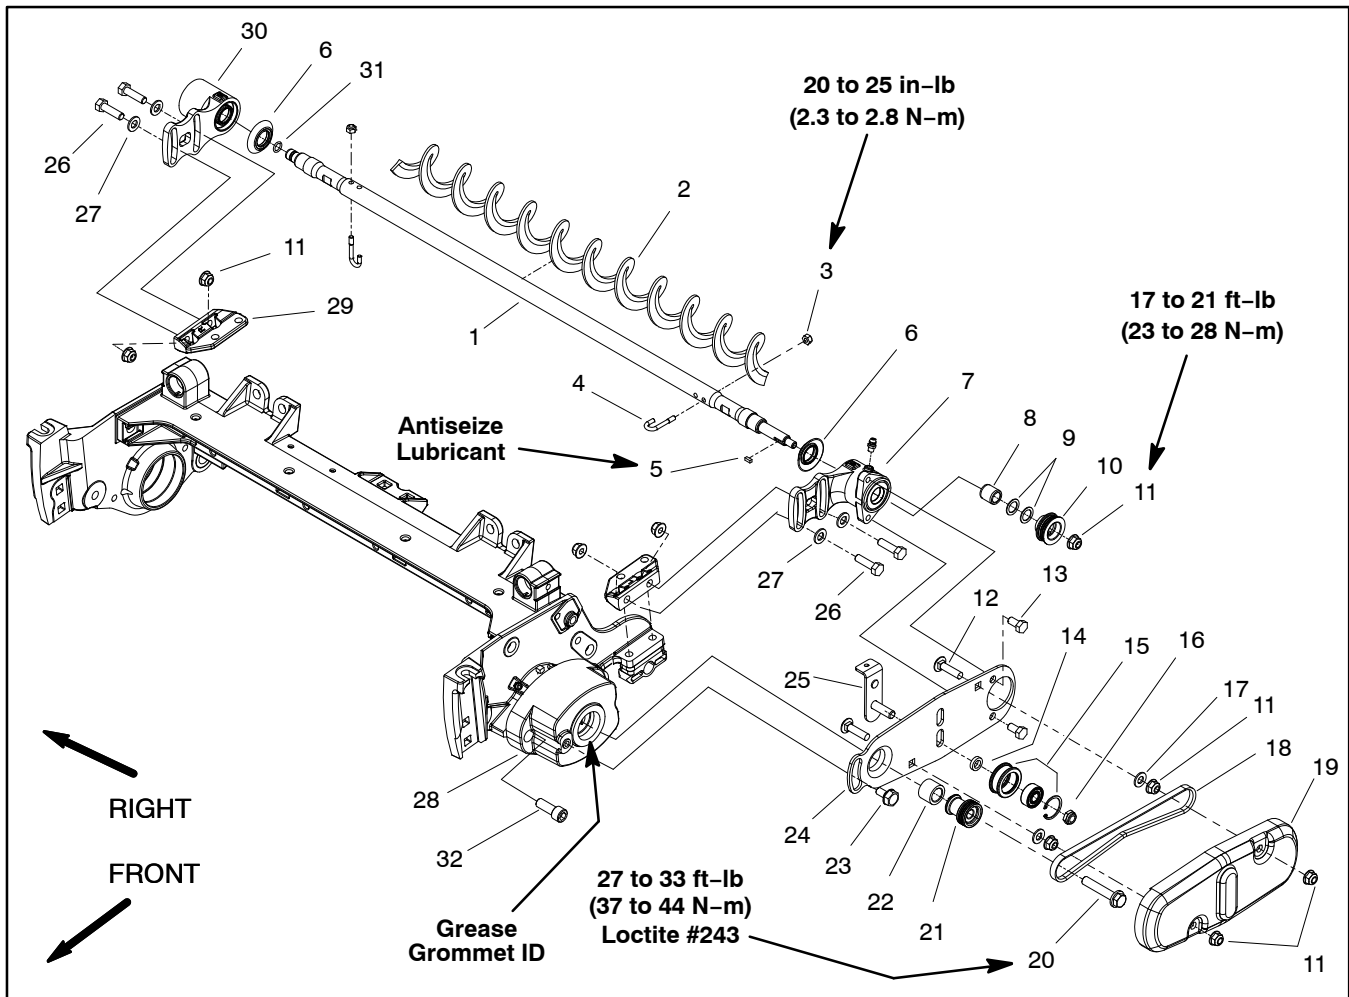
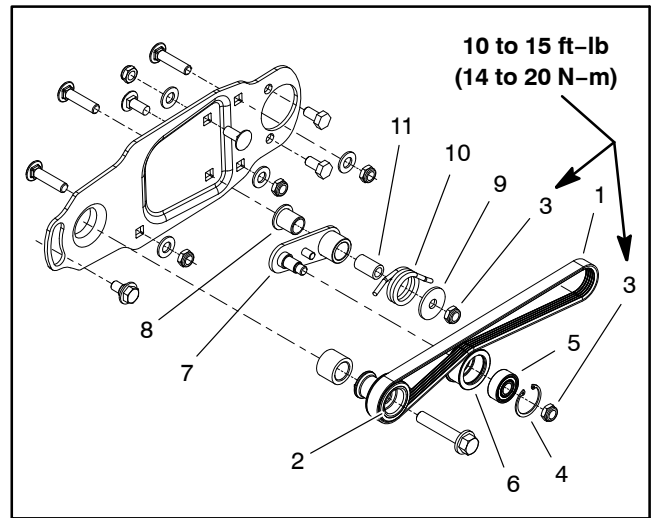
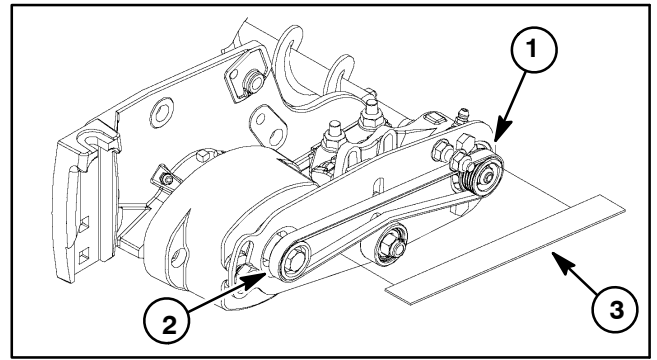
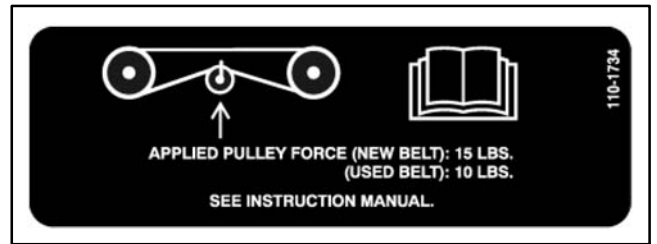

Figure 53
Figure 54
Figure 59
Figure 60
NOTE: Drive components for the rear roller brush are located on the opposite side of the cutting unit from the cutting reel hydraulic motor. Figure 53 shows components used when the brush drive is on the left side of the cutting unit.
NOTE: Rear roller brush kits prior to 2008 include an adjustable drive belt idler system as shown in Fig. 53. These kits also use a driven pulley that is located on the brush shaft with a square key. Starting in 2008, brush kits have a sprint-loaded drive belt idler system as shown in Fig. 54. These kits also use a splined driven pulley so no key is necessary.
Disassembly (Fig. 53)
A. Remove the non-drive brush bearing housing (item 30) from cutting unit.
3. Disassemble roller brush components as necessary using Figures 53 and 54 as guides.
Assembly (Fig. 53)
4. Assemble roller brush components using Figures 53 and 54 as guides along with the following:
B. When installing drive pulley (item 21), make sure that tabs on pulley engage slot in drive shaft.
D. During assembly, apply Loctite #243 (or equivalent) to threads of fasteners and torque fasteners as shown in Figures 53 and 54.
E. Check alignment of pulleys with a straight edge placed along the outer face of the driven pulley (Fig. 59 or 61). The outer faces of the driven and drive pulleys (not the idler pulley) should be in line within 0.030" (0.76 mm). If necessary to align pulleys, remove driven pulley from brush shaft and add or remove washer(s) (item 9 in Fig. 53) until drive and driven pulleys are aligned.
H. If roller brush drive includes an adjustable idler pulley (shown in Figure 54), make sure that idler arm (item 7 in Fig. 54) is free to rotate after assembly to brush plate. Also, make sure that idler spring is installed so that it can rotate the idler arm and pulley and apply tension to the drive belt.
5. To tension a roller brush drive system that includes an adjustable idler pulley (shown in Figure 53), make sure idler pulley lock nut is loose. Lift up on idler plate tab with 15 lbs of force for a new belt (10 lbs of force for a used belt) and tighten pulley lock nut. Refer to decal on brush plate (Fig. 60).